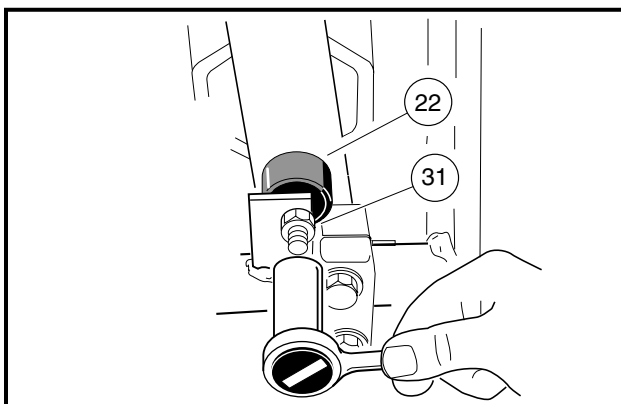

Figure 5-12 Brake Pedal Height Adjustment
- 2.4. Loosen the brake stop jam nut (31), then relieve pedal pressure on the stop by pushing down slightly on the pedal. Next, adjust the brake stop bumper (22) up or down (**Figure 5-12, Page 5-17**). Adjusting the bumper upward decreases distance between pedal and floorboard. Adjusting the bumper downward increases distance between pedal and floorboard. Proper brake pedal height is 6 inches (15.2 cm) (**Figure 5-13, Page 5-17**).
- 2.5. Tighten the jam nut (31) to 8 ft-lb (9.5 N-m) (**Figure 5-12, Page 5-17**).
- 2.5. Tighten the jam nut (31) to 8 ft-lb (9.5 N·m) (**Figure 5-12, Page 5-17**).